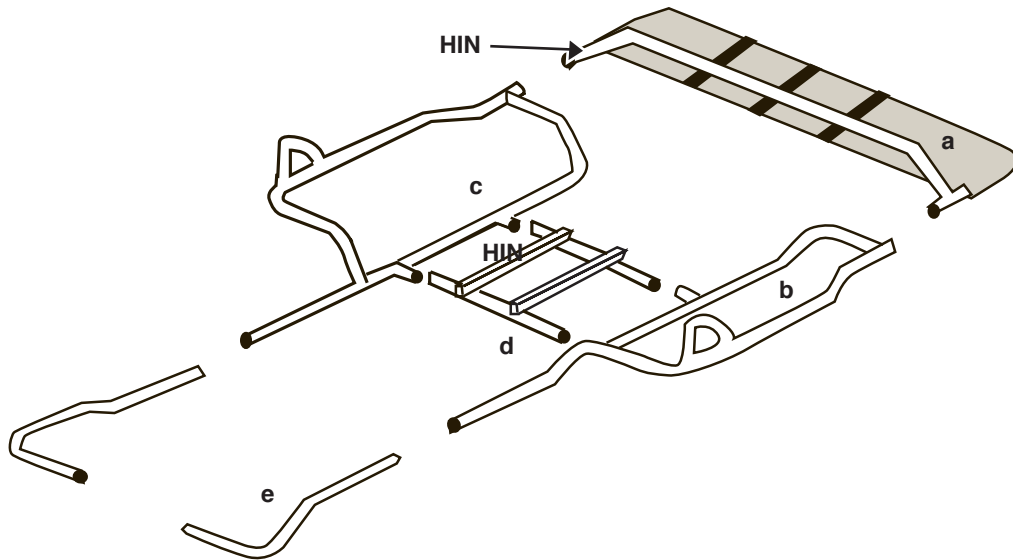

Fig. 1
1. Assemble Cargo Deck by sliding Mesh Cargo Deck over Rear Frame Member (see figure 1) and secure using attached Hook and Loop and Ladder Lock/ Strap Fasteners.
3. Assemble Seat Support Frame Member to Left and Right Frame Members using (4) of the Short Pins. (see figure 1)
4. Assemble Cargo Deck to Left and Right Frame Members using (2) Snap Pins (see figure 1).
5. Assemble Foot Bars to Left and Right Frame Members using (2) Snap Pins (see figures 1).
HIN is located on square tubing of seat support frame member and on right main frame member (See Figure 1)